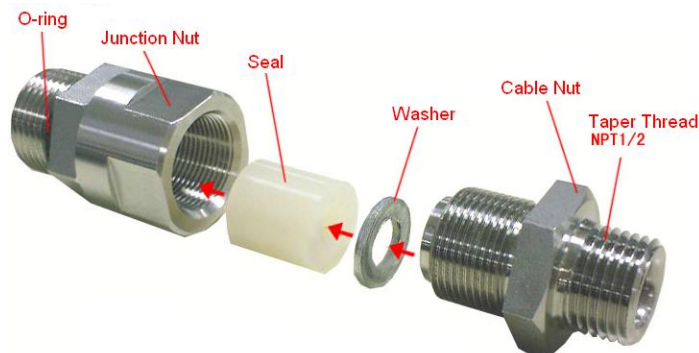

Fig. 7
- (3) The cable layout for hazardous explosive area must comply with corresponding codes. The connecting cable can be copper-core screened cable or explosion-proof hose with suitable junction thread matching with the detector taper thread of the cable nut (Fig. 7).
- (4) The cable must enter the detector through the junction nut, and there must be an O-ring, a seal and a washer, as shown in Fig. 7.